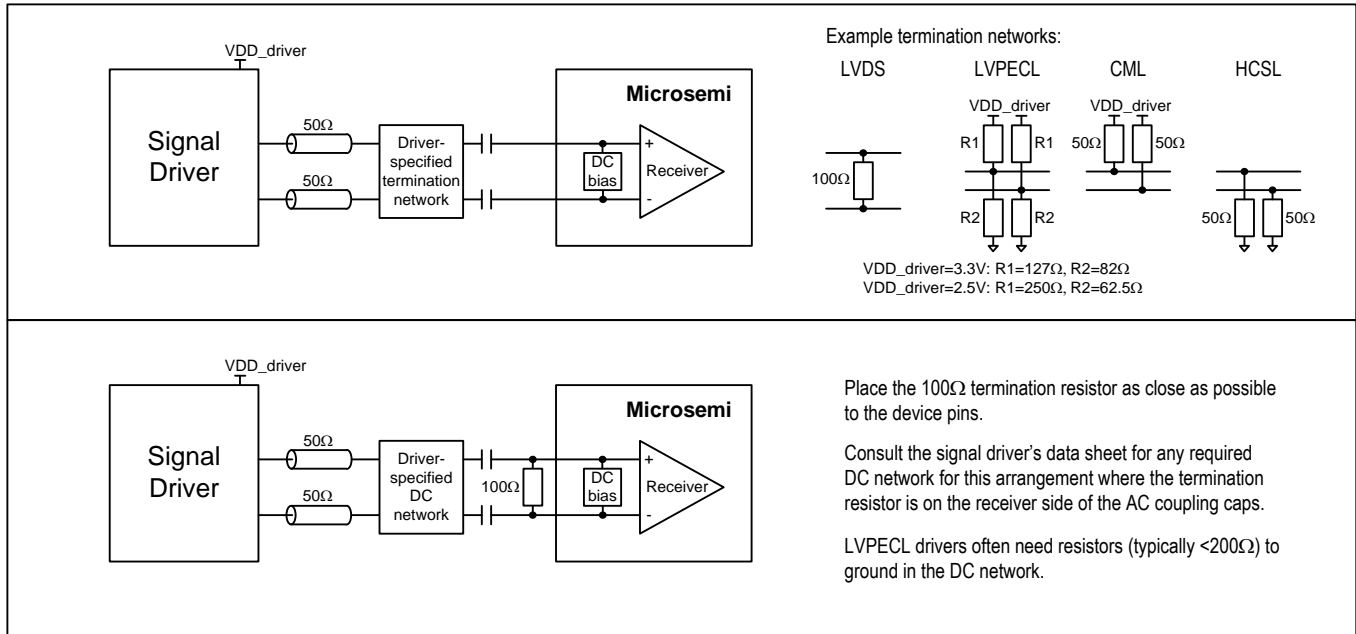

Figure 21 - Example External Components for Differential Input Signals
- Note 3: Differential signals.** The differential inputs can easily be interfaced to neighboring ICs driving LVDS, LVPECL, CML, HCSSL, HSTL or other differential signal formats using a few external passive components. In general, Microsemi recommends terminating the signal with the termination/load recommended in the neighboring component's data sheet and then AC-coupling the signal into the ICxP/ICxN pins. See Figure 21 for details. To connect a differential signal to IC3, AC-couple one side of the signal to IC3P and AC-couple the other side to VSS. For DC-coupling, treat the input as 1.8V CML.